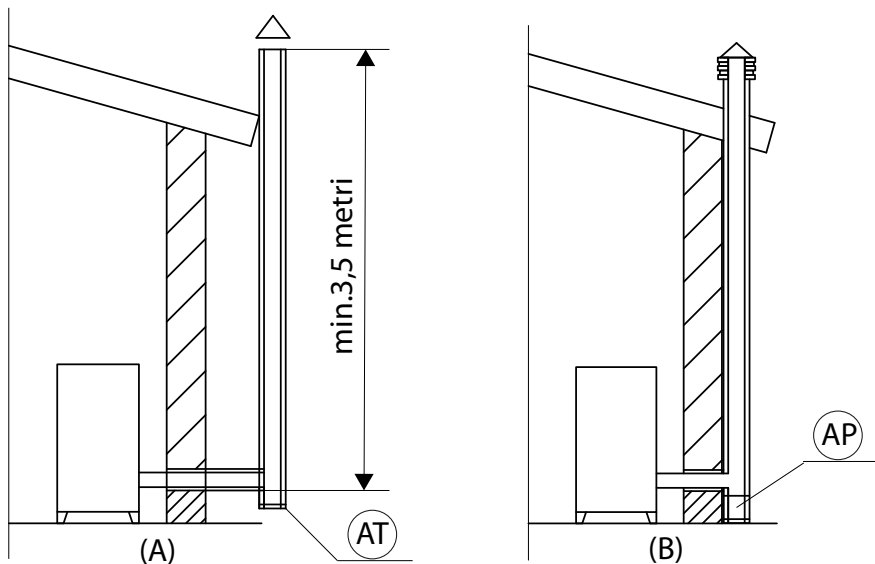

FIGURE 1 - FLUE
A simple air shaft made of cement must be suitably lined. In both solutions there must be an inspection cap (AT) and/or inspection hatch (AP) - FIG.1.